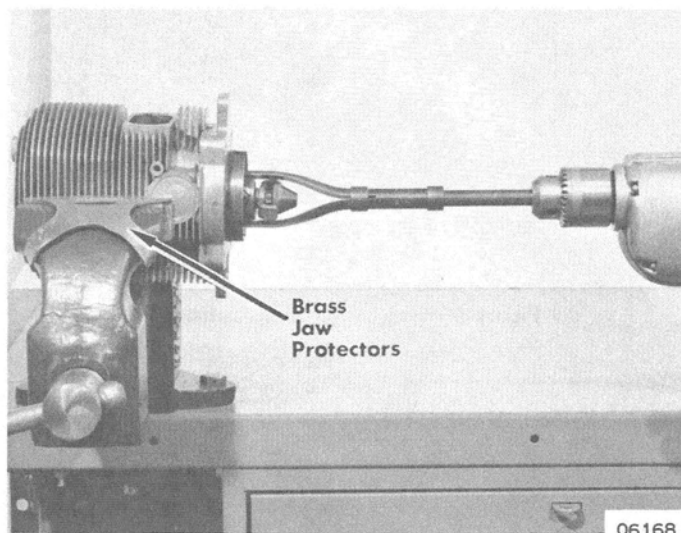

Figure 3. Honing Cylinder
1. Follow recommendations of the hone manufacturer for correct usage of hone and proper cleaning and lubrication during honing. (Figure 3)